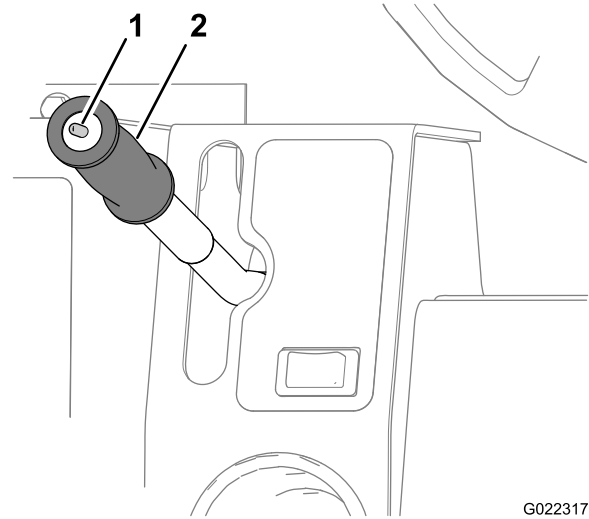

Figure 27
This toggle switch (Figure 27) controls the mode for the hydraulic motor and has 2 positions: Transport and Work. Select the desired operating position. Push the switch to the rear (toward you) to set to Work speed (W), or push the switch forward (away from you) to set to Transport speed (T).